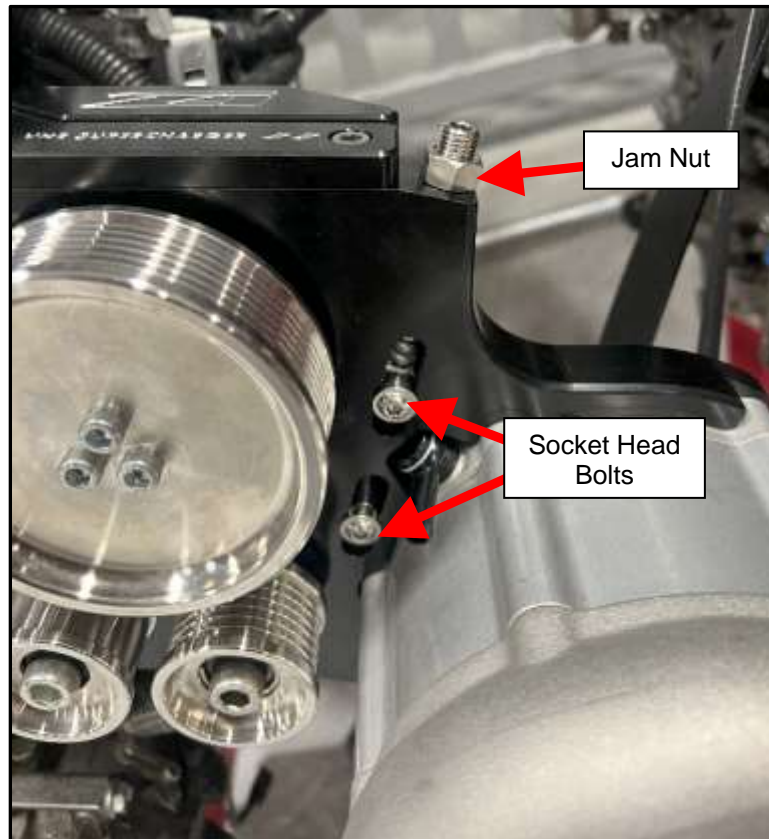

Figure 98
1. Loosen the 14mm jam nut on the set screw on the top of the main supercharger bracket and the (2) two 4mm socket head bolts on the front. *Figure 98.*